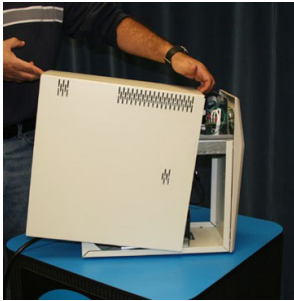

Fig 6.
6. Gently lift the outside panel up from the rear, and slide it back, and UP from the UPS. Remove the panel slowly as to not snag internal wires. Use your finger tips while lifting to insure no disturbance of internal wiring. Note: Be careful not to drop tools or other items into the UPS while the cover is removed. Fig 6.